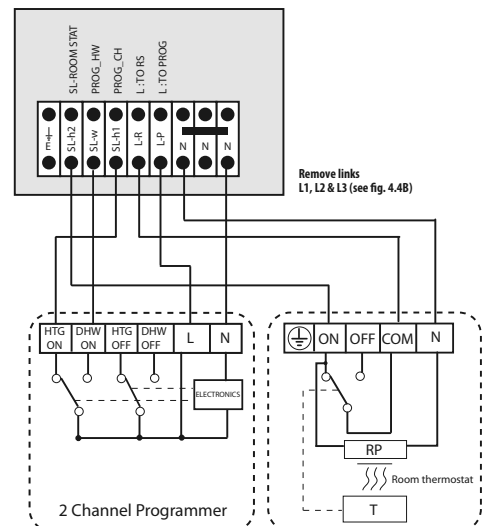

Figure 4.8 Remote 2-Channel Programmer and standard room thermostat wiring diagram for GulfStream with NO factory fitted clock option
- Wire a remote programmer and a room thermostat to the appliance terminals as shown in figure 4.8